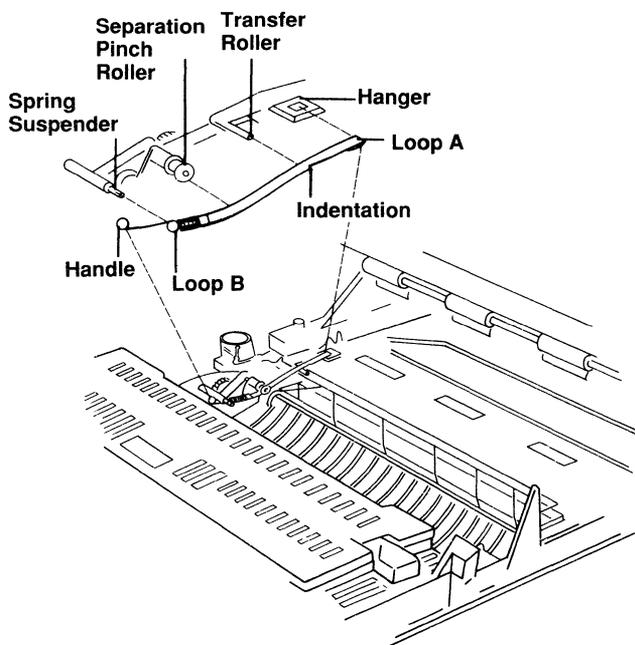

Figure 9: The Separation Belt
1. Raise the upper half of the printer. Locate the separation belt using Figure 9 as a guide.
1. Open loop A on the separation belt with a screwdriver (Figure 9).
4. Pass the separation belt over the transfer roller and under the separation pinch roller (Figure 9).